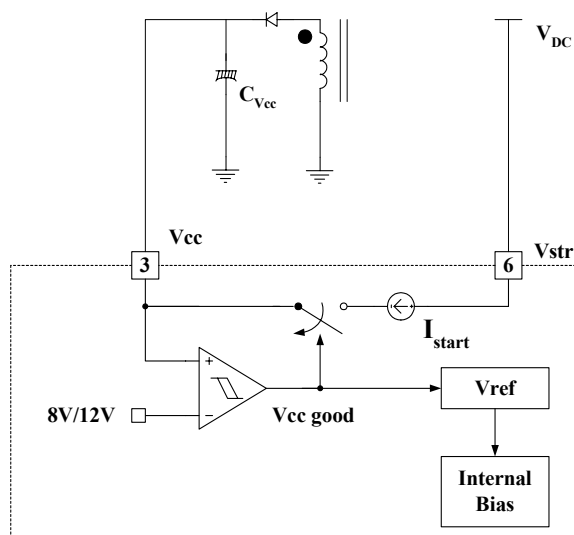

Figure 4. Internal startup circuit
1. Startup : In previous generations of Fairchild Power Switches (FPS) the Vcc pin had an external start-up resistor to the DC input voltage line. In this generation the startup resistor is replaced by an internal high voltage current source. At startup, an internal high voltage current source supplies the internal bias and charges the external capacitor (C_{Vcc}) that is connected to the Vcc pin as illustrated in figure 4. When Vcc reaches 12V, the FPS begins switching and the internal high voltage current source is disabled. Then, the FPS continues its normal switching operation and the power is supplied from the auxiliary transformer winding unless Vcc goes below the stop voltage of 8V.